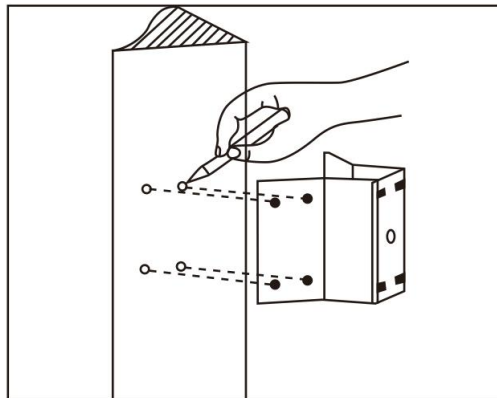

Fig 12
a. As shown in fig 12, with the installation holes in the corner mounted attachment as pattern, draw punched locations on the wall with an angle of  $90^\circ$  and punch to install expansion bolt.